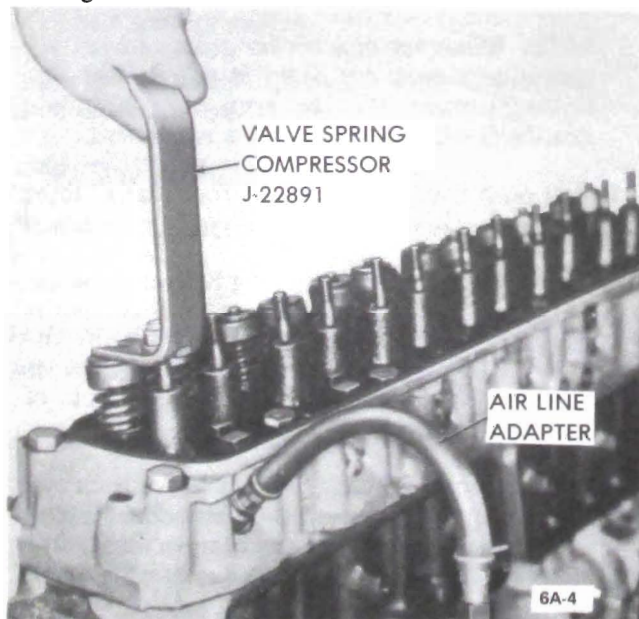

Figure 6A-4 Removing Valve Cap Retainers
4. Using a suitable compressor, such as J-22891, compress valve spring and remove valve spring cap keys. Release tool and remove shield spring and cap. See Figure 6A-4.